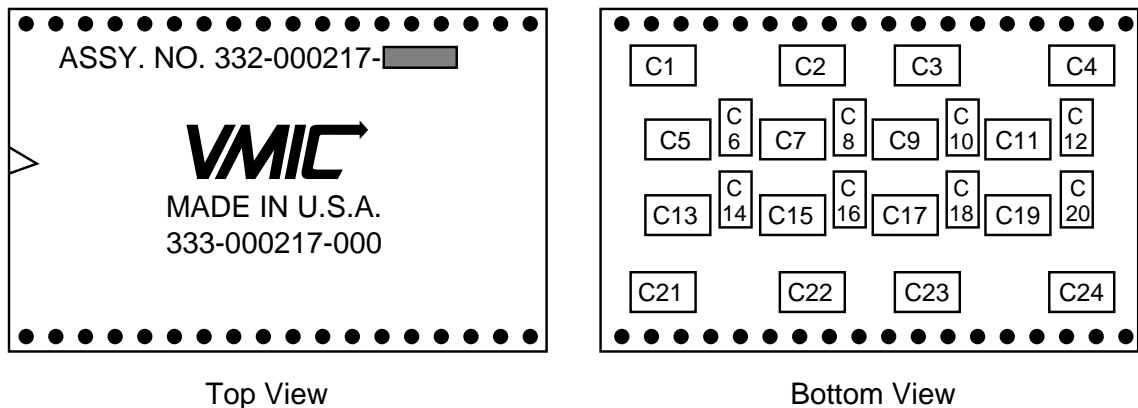
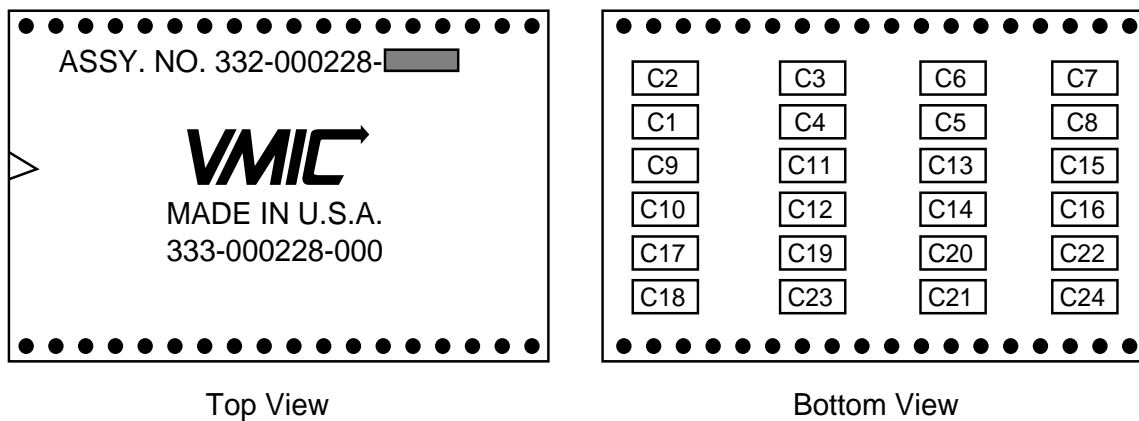

Figure 2-2 Assembly Drawing of the 0217 Filter Board
Figure 2-3 Assembly Drawing of the 0228 Filter Board
1. Determine the desired -3 dB cutoff frequency. Note if the frequency desired is less than 190 Hz, the filter module 332-000217 (Figure 2-2 on page 39), is best suited. Likewise, use the filter module 332-000228 (Figure 2-3 on page 39), for frequencies between 190 Hz and 18 kHz. Resistance (R) should remain within $500\ \Omega < R < 100\ \text{k}\Omega$ to prevent any problems with offset voltages and bias currents.